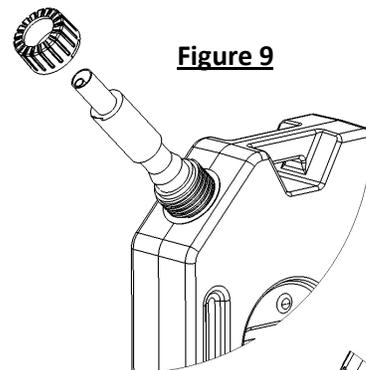

Figure 9
Step 2 – Replace the Spout in the reverse direction and retighten the cap (see **Figure 9**).